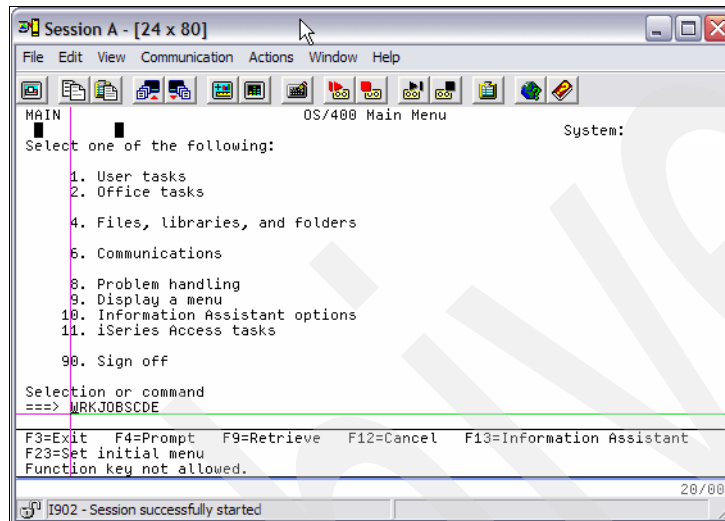

Figure 11-24 `wrkjobscode`
- ▶ Logon to i5/OS using the user name *fred* and from the main menu, run the command `wrkjobscode` and press Enter, then press F6 to add the entry (Figure 11-24).